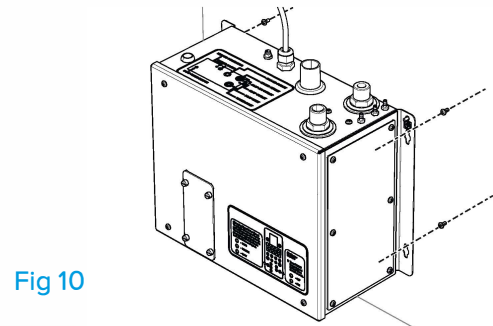

Fig 10
2. Fasten to the wall using mounting hardware suitable for the wall material (to be provided by others). The wall must be robust enough to support the weight of the module. See figure 10 and 11.